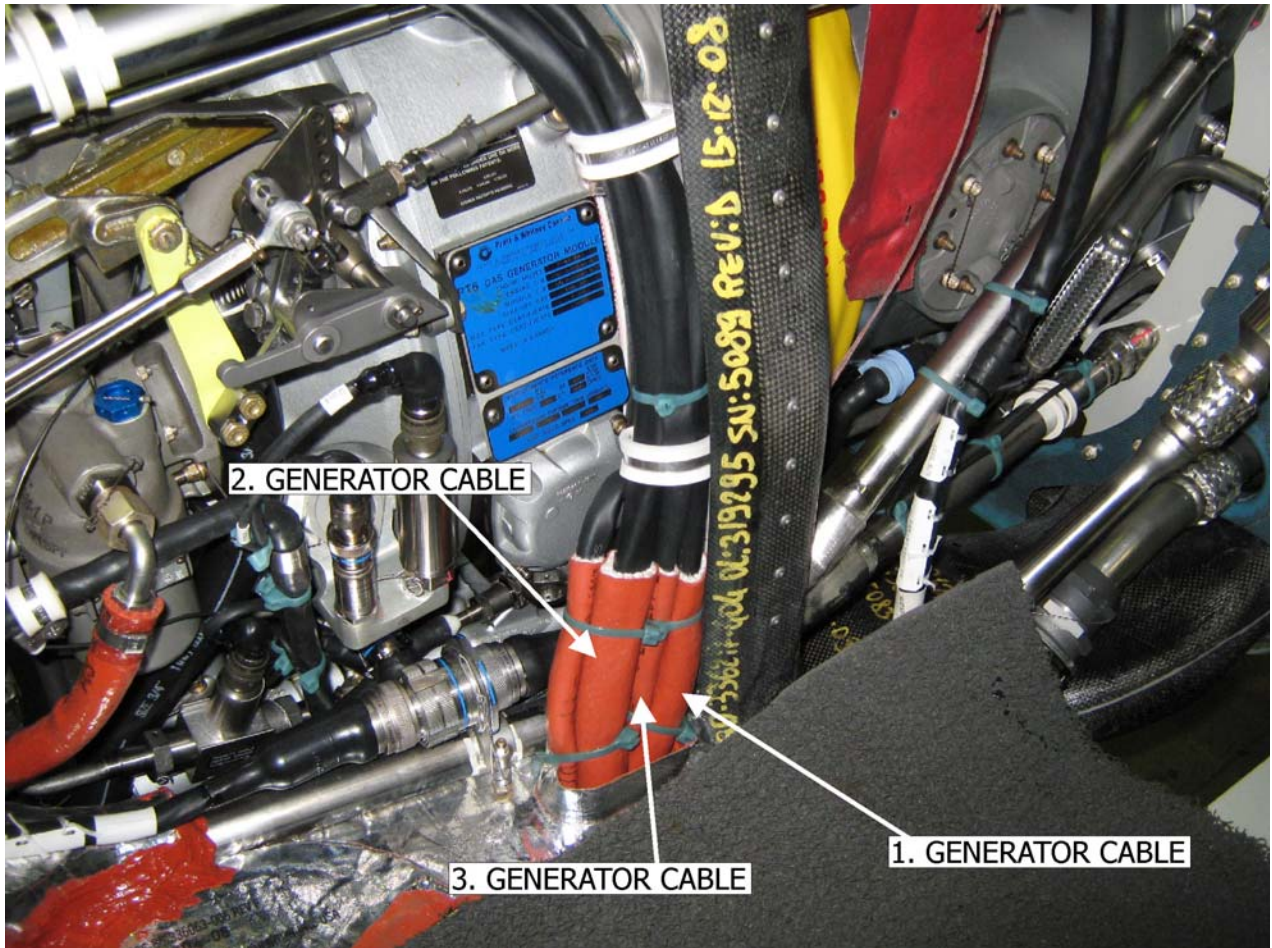

Fig. 215 - RH Generator Power Cables - Repositioning (Airplane SN 1181 +)(Sheet 1 of 7)
- (1) Place the Generator Cables (1, 2) and the Generator Cable Terminal End (3) at the hole located on the wing (Refer to Fig. 215 Sheet 1 of 7).